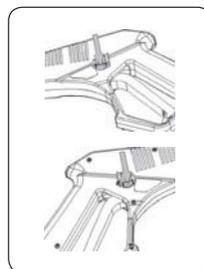

FIGURE 9
3. Press the lock-on button of the trigger gun to lock the trigger in the OFF position (figures 9, 10 and 11).
9. Release the lock-on button. "ON" unlocked, "OFF" locked (figure 9,10 and 11)